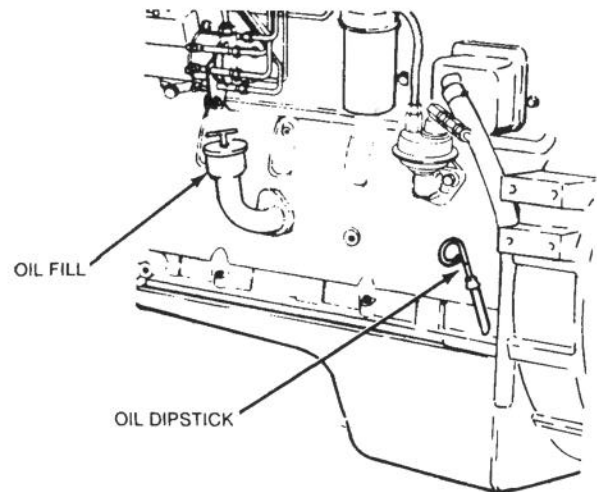

FIGURE 3-10. OIL FILL AND DIPSTICK LOCATIONS
2. Fill crankcase to "L" (low) mark on dipstick (Figure 3-10).